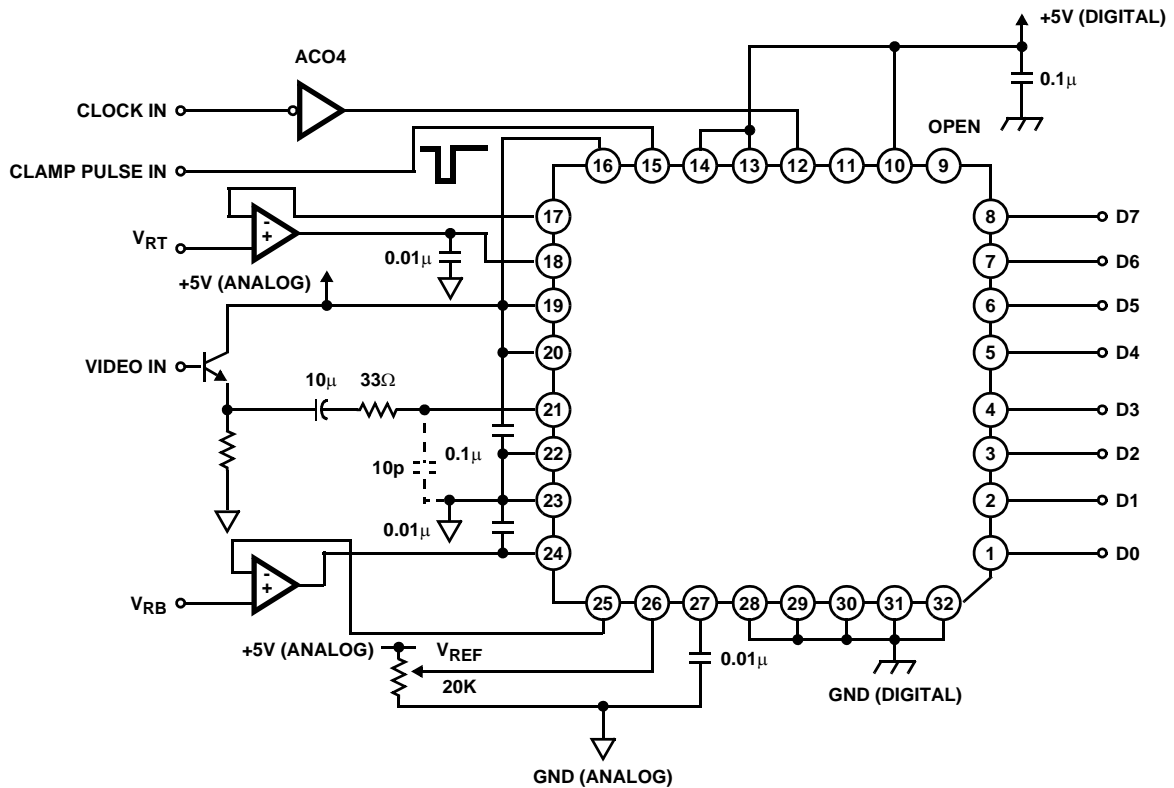

FIGURE 10. WHEN CLAMP IS USED (SELF-BIAS NOT USED)
- The HI2302 is a two-step parallel system A/D converter featuring a 4-bit upper comparator block and two lower comparator blocks of 4-bit each. The reference voltage that is equal to the voltage between  $V_{RT} - V_{RB}/16$  is constantly applied to the upper 4-bit comparator block. Voltage that corresponded to the upper data is fed through the reference supply to the lower 4-bit comparator block. Voltage that corresponded to the upper data is fed through the reference supply to the lower 4-bit comparator block.  $V_{RTS}$  and  $V_{RBS}$  pins serve for the self generation of  $V_{RT}$  (reference voltage top) and  $V_{RB}$  (reference voltage bottom), and they are also used as the sense pins as shown in the Application Circuit examples Figures 10 and 11.
- The operation of respective parts is as indicated in the Timing Chart II. For instance, input voltage  $V_I$  (1) is sampled with the falling edge of the external clock (1) by means of the upper comparator block and the lower comparator A block. The upper comparator block finalizes comparison data MD (1) with the rising edge of the external clock (2). Simultaneously the reference supply generates the lower reference voltage RV (1) that corresponded to the upper results. The lower comparator A Block finalizes comparison data LD (1) with the rising edge of the external clock (3). MD (1) and LD (1) are combined and output as Out (1) with the rising edge of the external clock (4). Accordingly there is a 2.5 clock delay from the analog input sampling point to the digital data output.